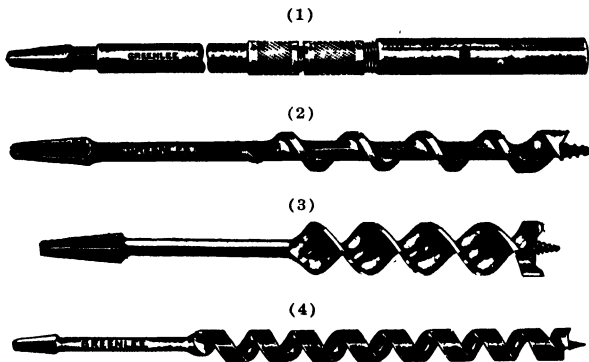

Fig. 33. (1) Auger Bit Extension; (2) Single-Spiral, Single-Cutter Bit; (3) Double-Spiral, Double-Cutter Bit; (4) Single-Spur Car-Bit or Ship-Auger
The use of the regular bit brace is justified only when neither of the preceding tools are available. The sharp angle at which the holes must be bored, in order to provide hand clearance for the sweep of the brace, makes the slant of the holes very pronounced, thus making the pulling-in of the cables very slow and laborious. It will help some to use an auger bit-extension, Fig. 33, to lengthen the bit, thus reducing the boring-angle required.
**Choosing Auger Bits.** No matter which of the three boring tools you use, be sure that the cutting edges of the bit are in good condition. For this type of boring (that is, new construction work), a bit with a coarse pitch of thread on its screw point for fast feeding and a single cutter-head for easy cutting is preferred, such as the single-spiral, single-cutter bit, shown in Fig. 33. The double cutter-head bit with double-spiral, is also shown in Fig. 33.
For boring holes in old-house-wiring, the best bit to use is the one shown in Fig. 33, called ship-auger by some or single-spur car-bit by others. Nails are struck much oftener in this type of work than in new construction work, because there is so little leeway in the
choice of hole locations. This style of bit is not damaged so easily as are the other types, Fig. 33, and it also is somewhat easier to put into shape again after it has been damaged by striking a nail. However, it does not bore quite so easily as the former.